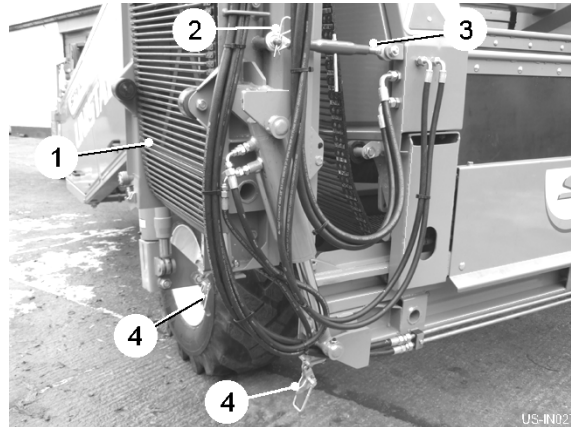

Fig 14
Before lowering the conveyor (item 1, fig 14), remove the 'R' clip (item 2, fig 14) and disconnect the top link (item 3, fig 14). Failure to observe this precaution will result in damage to the machine. Always refit the top link before transporting the machine on the road.
Ensure the cross conveyor is shifted fully to the left and the transport top link (item 3, fig 14) is disconnected before operating the conveyor fold function.